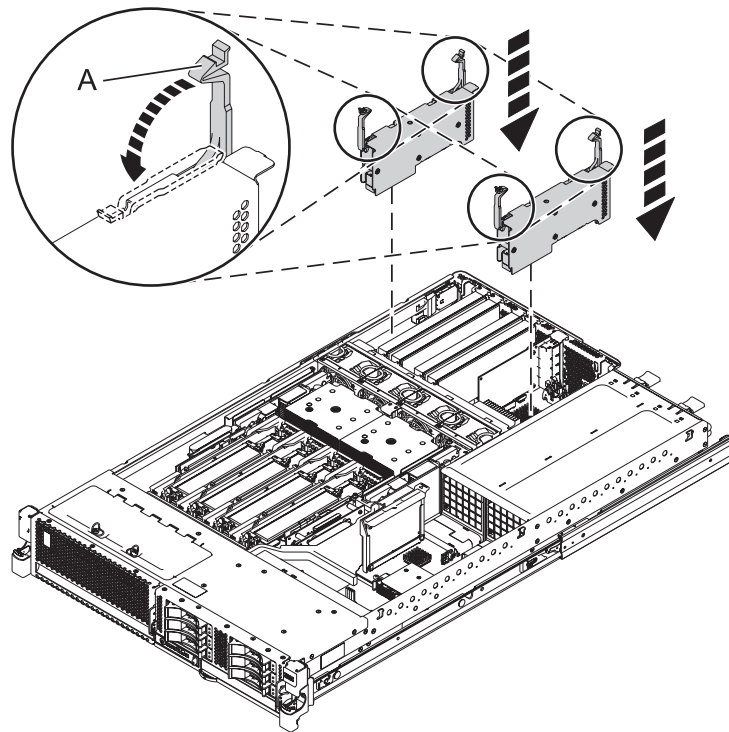

Figure 2. Adapter installation in a rack-mounted 8231-E2B system
10. Prepare to install the new adapter by putting the latches on the adapter and on the adapter slot into the open position, as shown in Figure 2.
13. Evenly rotate the latches into the locked position, as shown in Figure 2.